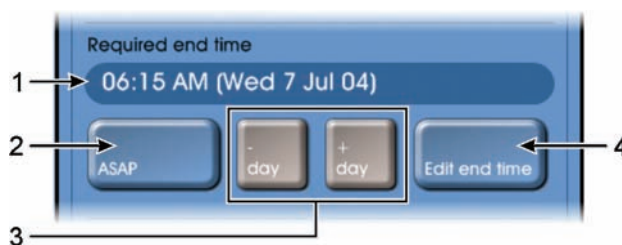

Figure 68: Required end time controls with:
You can use the **+ day** and **– day** buttons to shift the required end date forwards or backwards. These buttons are shown as item 3 in Figure 68.
1. Select the **Edit end time** button from the "Scheduling" dialog box (see Figure 68).
4. Use the +/-15 buttons (6) to adjust the time forward or backwards in 15 minute steps.
5. Use the +/- day buttons (7) to shift the required end date forwards or backwards.
6. Select the **OK** button (4) when you have entered the required time or select the **Cancel** button (9) to leave the dialog box without changing the end time (see Figure 68).
2. If you require an exact time as the default, enter the time using the keypad (2) and time-adjust buttons (5).